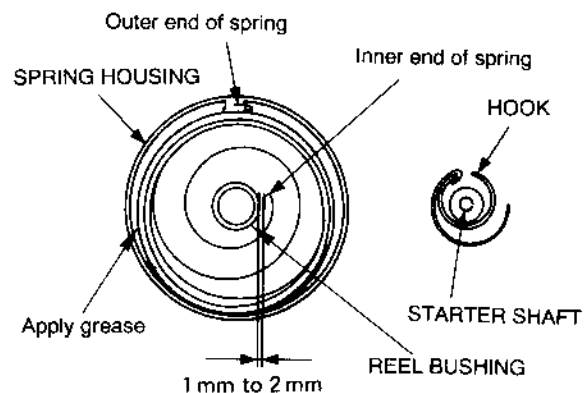

Fig. 73
- (2) Check that the spring is securely set in the reel and form the spring end to measure 1mm to 2mm for clearance between inner end of the spring and the reel bushing edge so that the hook catches securely as shown in Fig. 73
- (7) Hold the starter rope as shown in the Fig. 73 and rotate the reel 6 turns by applying the force directly to the reel notch. (pre-winding)
Refer to Fig. 73 for which way the spring must be placed.